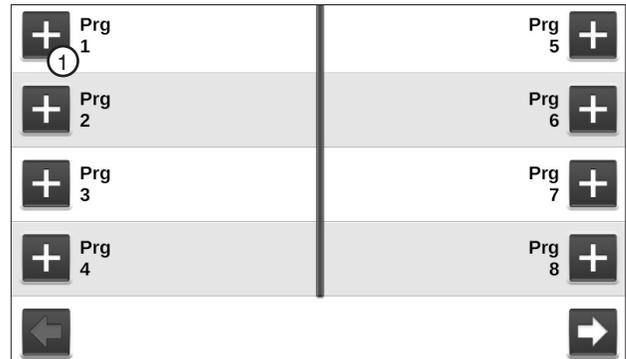

Figure 147-2 Sector Program Screen
1. Push **Menu**, **Programs** and **Sector Programs** to view the Sector Programs screen. Refer to Figure 147-2.